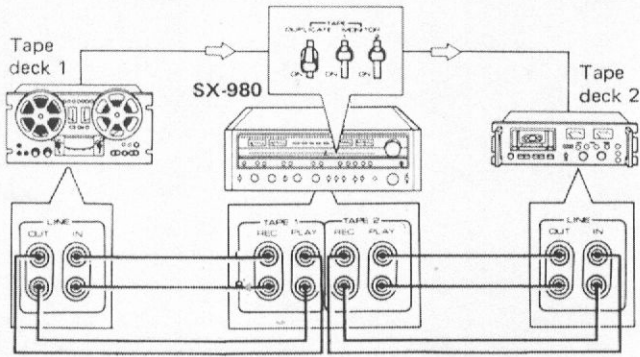

Fig. 21
1. As shown in Fig. 21, connect the tape decks to the receiver's TAPE 1 and TAPE 2 jacks.